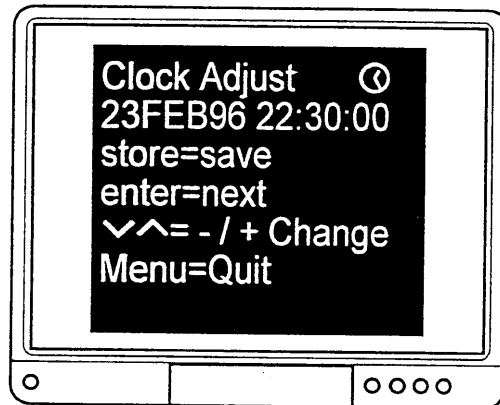

Figure 9.
- Step 2. Press 'Enter' on the keypad, the on-screen display will change to the display shown in figure 9, with one of the sections already highlighted.